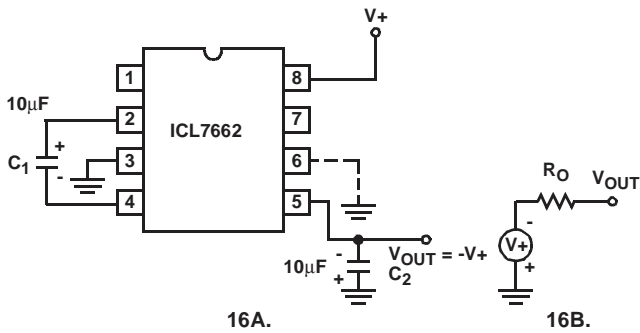

FIGURE 16. SIMPLE NEGATIVE CONVERTER AND ITS OUTPUT EQUIVALENT
The majority of applications will undoubtedly utilize the ICL7662 for generation of negative supply voltages. Figure 16 shows typical connections to provide a negative supply where a positive supply of +4.5V to 20.0V is available. Keep in mind that pin 6 (LV) is tied to the supply negative (GND) for supply voltages below 10V.
ESR also affects the ripple voltage seen at the output. The total ripple is determined by 2V, A and B, as shown in Figure 16. Segment A is the voltage drop across the ESR of C2 at the instant it goes from being charged by C1 (current flowing into C2) to being discharged through the load (current flowing out of C2). The magnitude of this current change is 2 x IOUT, hence the total drop is 2 x IOUT x ESRC2V. Segment B is the voltage change across C2 during time t2, the half of the cycle when C2 supplies current the load. The drop at B is IOUT x t2/C2V. The peak-to-peak ripple voltage is the sum of these voltage drops:
Figure 23 combines the functions shown in Figure 16 and Figure 22 to provide negative voltage conversion and positive voltage doubling simultaneously. This approach would be, for example, suitable for generating +9V and -5V from an existing +5V supply. In this instance capacitors C1 and C3 perform the pump and reservoir functions respectively for the generation of the negative voltage, while capacitors C2 and C4 are pump and reservoir respectively for the doubled positive voltage. There is a penalty in this configuration which combines both functions, however, in that the source impedances of the generated supplies will be somewhat higher due to the finite impedance of the common charge pump driver at pin 2 of the device.